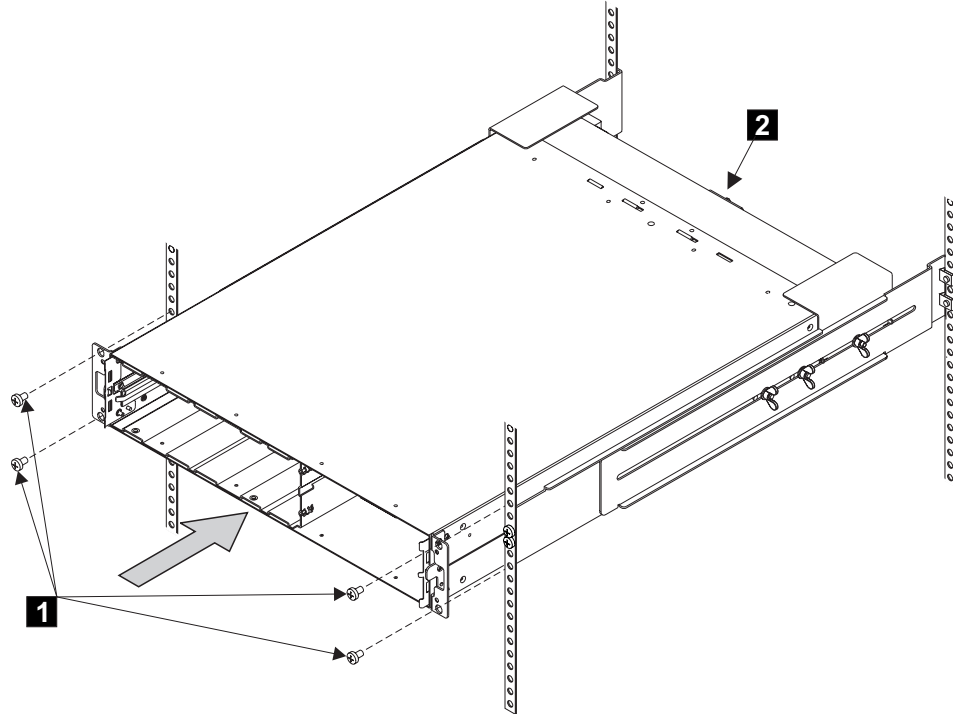

Figure 40. Installing the 2145 UPS into a rack
6. Install the front flathead screws **1** as seen in Figure 40 on page 63.